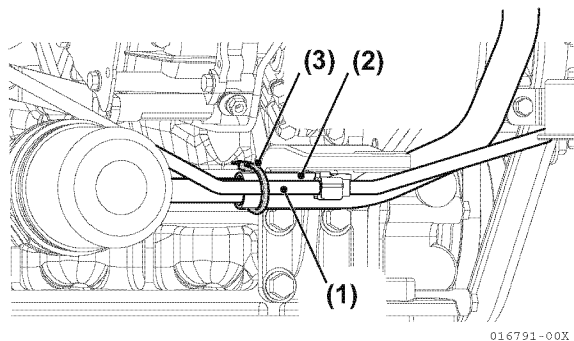

Figure 5-184
- Attach the feed pump wire harness to the oil cooler water pipe by nylon band (for 4JH5E only) (Figure 5-184).